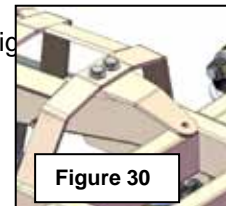

Figure 30
- c. Install rear seat mount tab to seat / shock frame as shown with supplied hardware. Figure 30